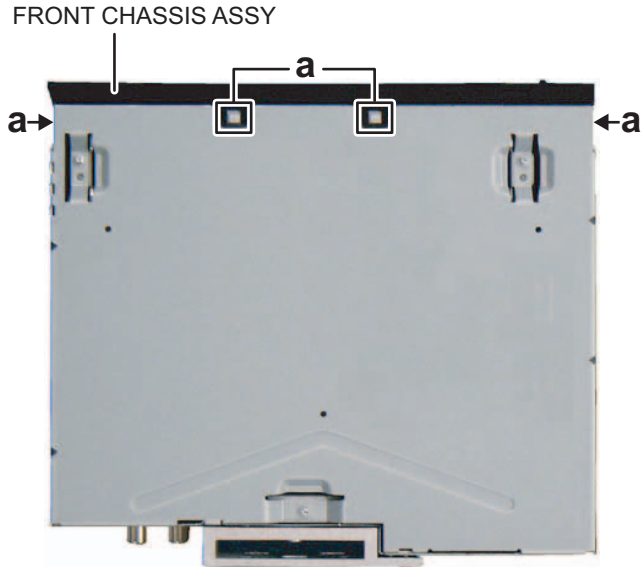

Fig.1
3.1.1 Removing the Front chassis ass'y (See Fig.1)